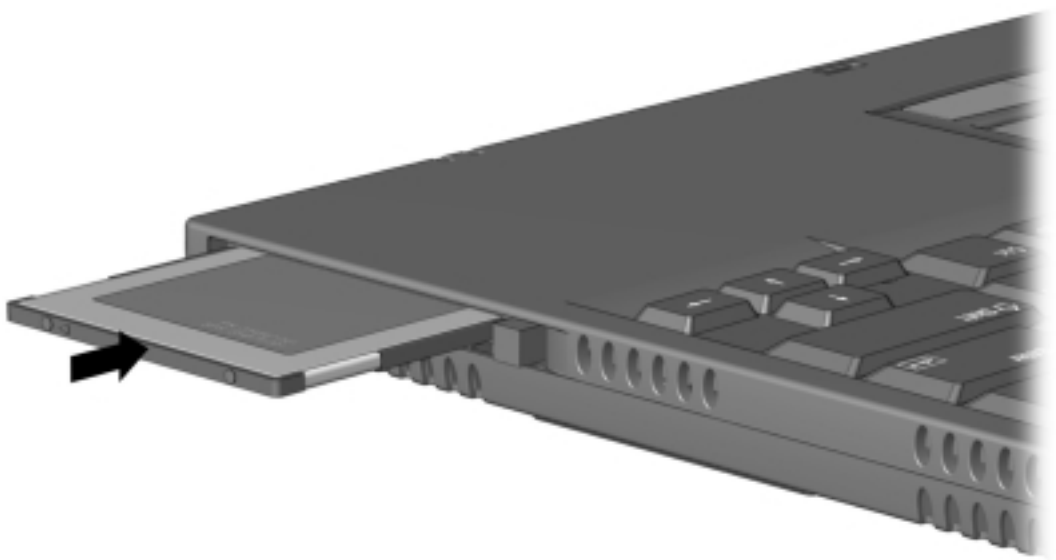

Figure 5-9. Removing a PC Card
1. Press the PC Card eject button ❶ (Figure 5-9).
2. Gently grasp the card and pull it out ❷.